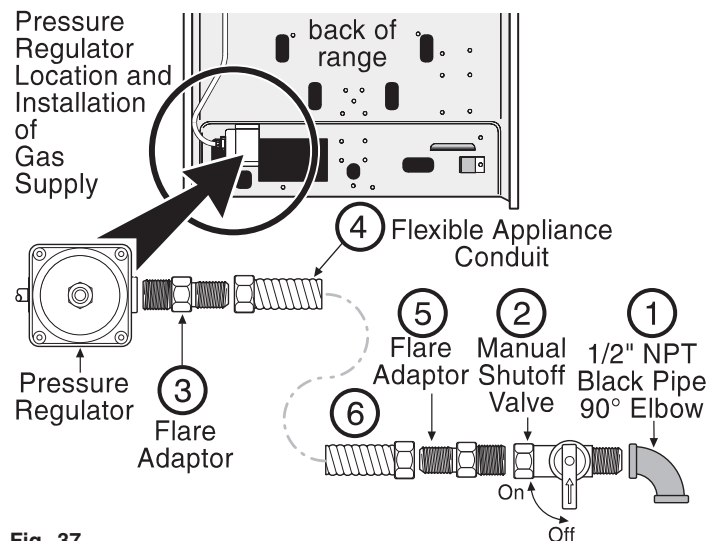

Fig. 37
This range is pre-set to operate on 4" natural gas manifold pressure. A convertible Pressure Regulator is connected to the manifold and **MUST** be connected in series with the gas supply line (Refer to Fig. 37). If the LP/Propane conversion kit has been used, follow instructions provided with the kit for converting the pressure regulator to LP/Propane use. The LP Kit can be found on the back side of the range or ordered from your dealer.
### E Connect the range to the gas supply (refer to Fig. 37).
Before connecting gas supply to range, **review the suggested power source location drawings** (Figs. 1, 3 & 4). To prevent leaks apply pipe joint sealant on all male (outside) pipe threading. The Pressure Regulator can be found mounted to the lower left rear of range (See Fig 37). To install the gas supply:
- 6.) Attach flexible Appliance Conduit to Flare Adapter on Shut-Off Valve (Fig. 37).